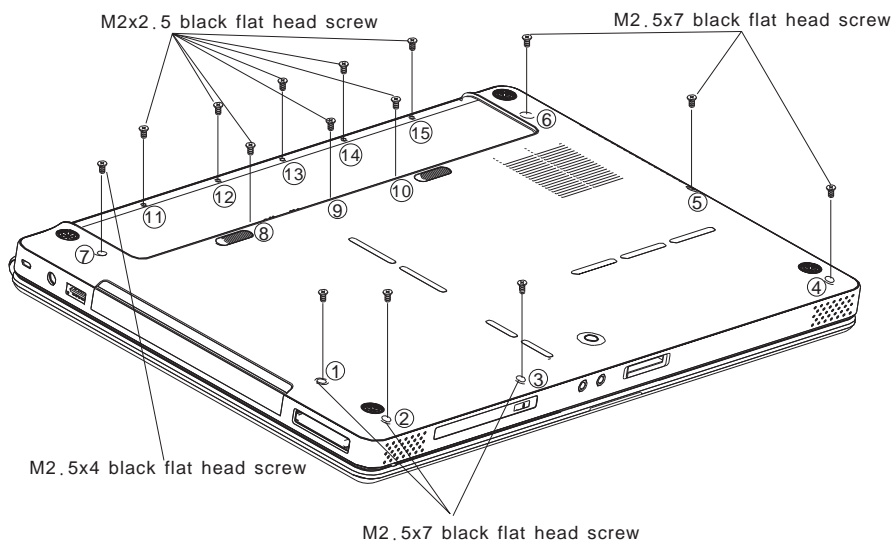

Figure 4-9 Removing the Top Cover
Remove the top cover according to the following procedures and Figures 4-9 and 4-10.
1. Turn the computer upside down and remove the following fifteen screws in the order shown on figure4-9.
Install the top cover with the display assembly according to the following procedures and Figures 4-9, 4-10.
4. Turn the computer upside down and secure it with the fifteen screws in the order shown on figure4-9.